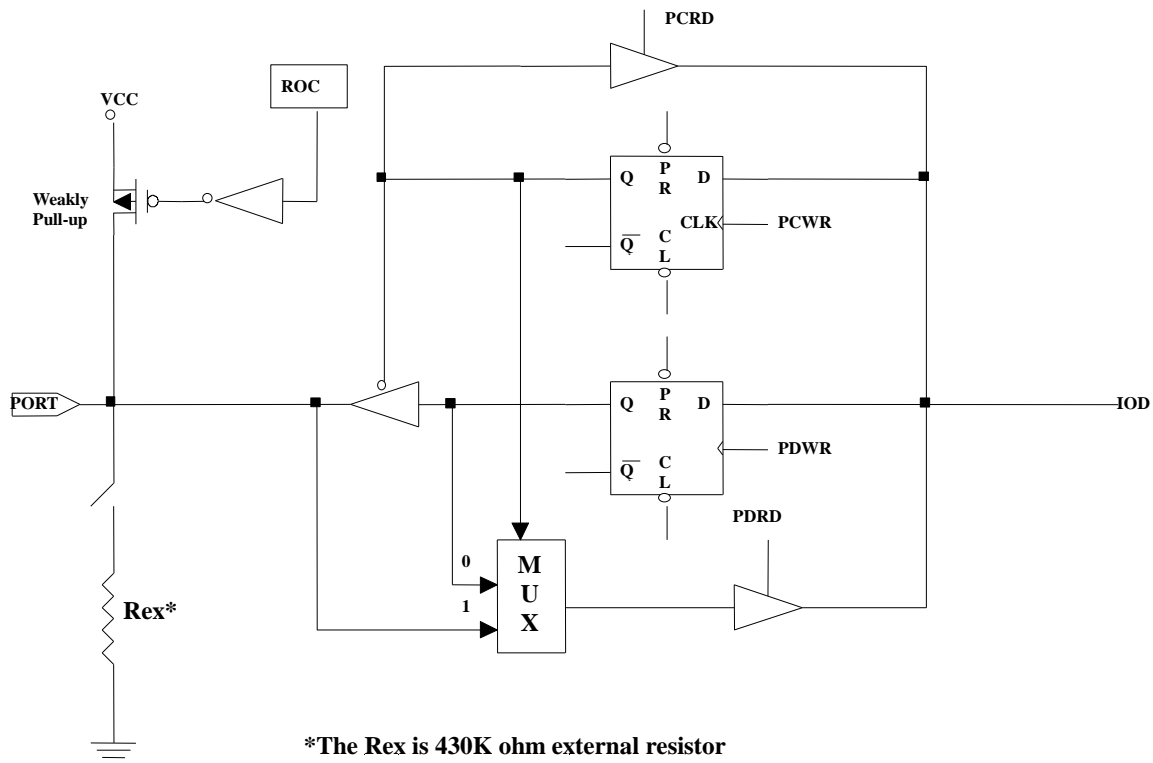

Figure 8 Circuit of I/O Port with R-option (P50,P51)
Setting the ROC to "1" will enable the status of R-option pins (P50~P51) that are read by the controller. Clearing the ROC will disable the R-option function. If the R-option function is selected, user must connect the P51 pin or/and P50 pin to VSS with a 430KΩ external resistor (Rex). If the Rex is connected / disconnected, the status of P50 (P51) is read as "0"/"1". Refer to Figure 8.
The I/O registers and I/O control registers are both readable and writable. The I/O interface circuits for Port 5 and Port 6 are shown in the following Figures 6, 7(a), 7(b), 7(C) and Figure 8.